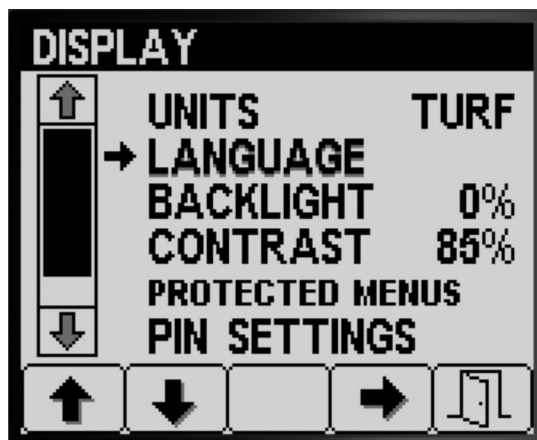

Figure 18
1. Press buttons 1 or 2 to navigate to the LANGUAGE option (Figure 18).
2. Press button 4 to select the LANGUAGE entry (Figure 18).